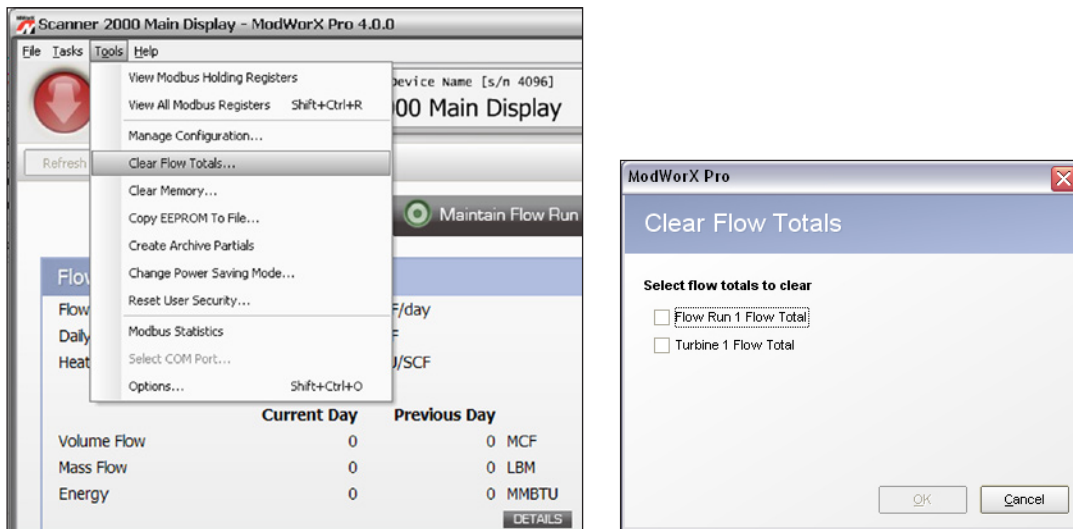

Figure A.7
1. Click **Tools>Clear Flow Totals** in the task bar (Figure A.7, page A-6).